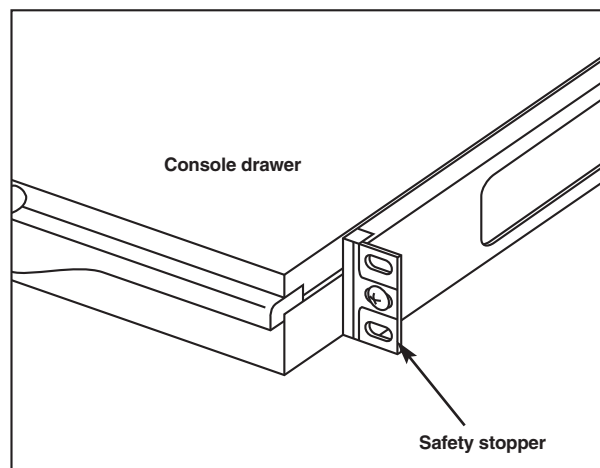

Figure 3-2. Locating and removing the safety stopper.
2. Remove the safety stopper from the console drawer. (See Figure 3-2.) The safety stopper keeps the drawer from sliding out during transportation.